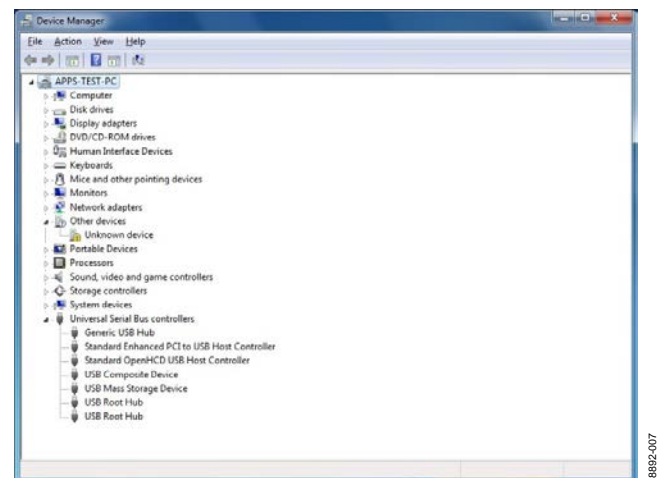

Figure 7. Device Manager
Added Figure 5, Figure 6, and Figure 7; Renumbered
1. Find the new unknown device (the evaluation board) in **Device Manager** and double-click it to open the properties. The device should be **Unknown device**, under **Other devices** (see Figure 7).